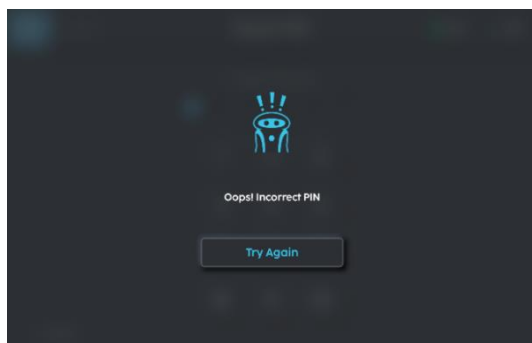

FIGURE 6-12
3. If PIN entered is incorrect, select 'Try Again'(Fig.6-12).